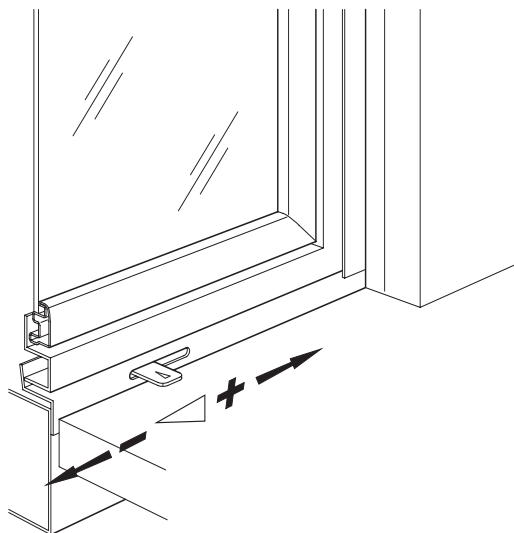

Fig. 7.1.1
- Aprire al massimo il registro dell'aria comburente (Fig. 7.1.1: - CHIUSO; + APERTO).
- Open the comburent air grid completely (Fig. 7.1.1 - CLOSED; +OPEN). When the fireplace is cold, stove lighting can be done with the door left ajar to encourage condensation evaporation which forms on the glass. Once combustion is underway the door is to be kept closed.
• Den Schieber der Verbrennungsluft ganz öffnen (Abb. 7.1.1: - GESCHLOSSEN, + OFFEN).
La **COMBUSTIONE PRIMARIA** avviene sul Monoblocco immettendo nel braciere, attraverso delle feritoie, aria che viene regolata dal pomello esterno posizionato in basso sulla destra del focolare (Fig. 7.1.1):
Takes place on Monobloc models by sending air to the grate through slots. The air is adjusted by means of the external knob located on the lower right of the fire box (Fig. 7.1.1):